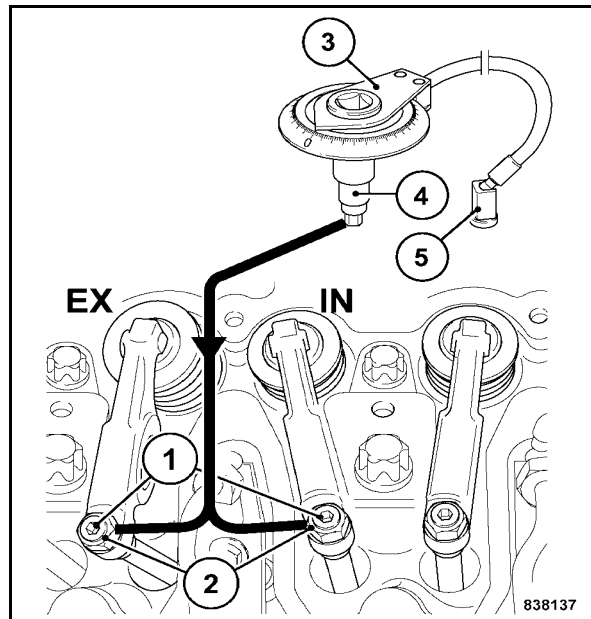

Fig. 172
- Loosen the counter nut (1) (Fig. 172).
- Attach the rotation angle disc (3) and the spanner socket (4) to the valve clearance adjustment screw (2).
- Fix the magnet (5) of the rotation angle disc.